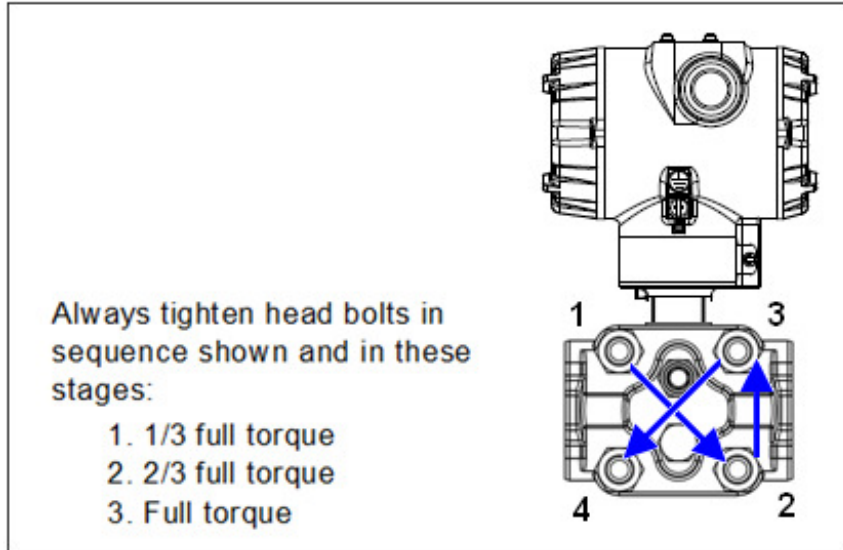

Figure 21 – Head Bolt Tightening Sequence
4. Loosen the nuts in the sequence shown in Figure 21.
12. Using a torque wrench, gradually tighten the nuts in the sequence shown in Figure 21. Tighten head bolts in stages of 1/3-full torque, 2/3-full torque, and full torque. See Table 13 for torque requirements versus Transmitter type and model.